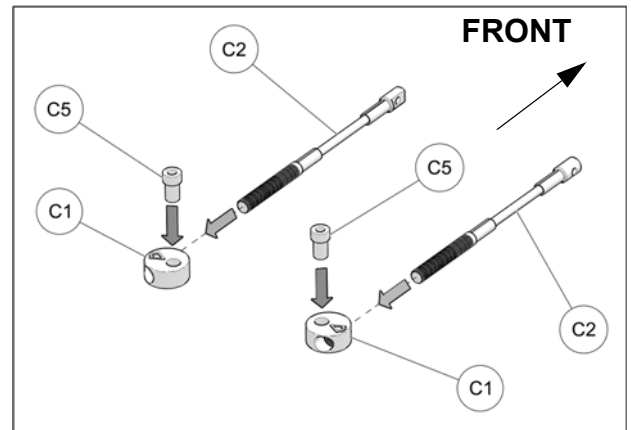

Fig. 16
- Assemble steering limiter cables (C2), aluminum disks (C1) and step spacers (C5) together as shown on Fig. 16